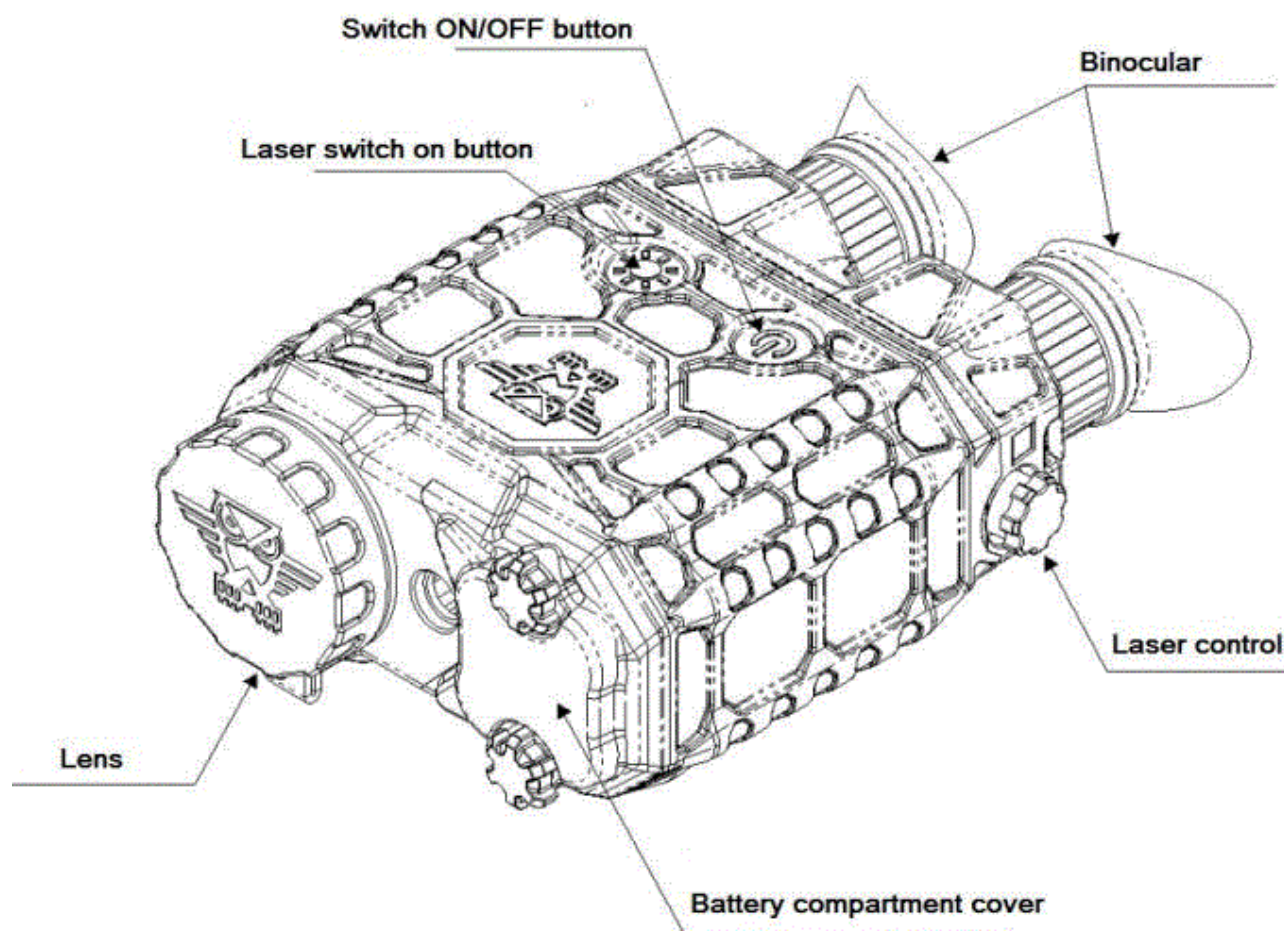

Fig. 1. Control keys of SPIN-2
1. SPIN-2 controls are shown in Figure 1.